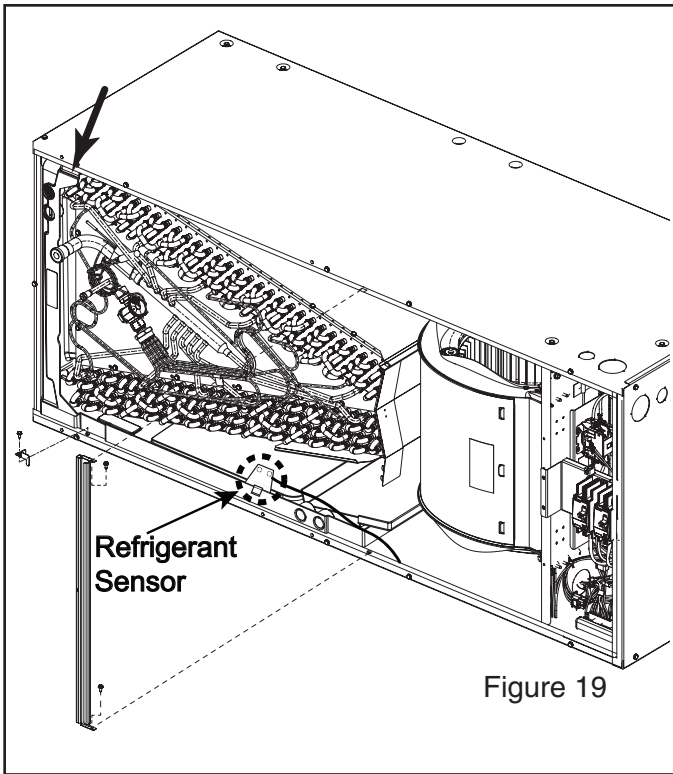

Figure 19
NOTE: The "N" coil replacement is taller than the "N" coil, see Figure 19. Some modification may be necessary to the unit or the return ductwork in downflow applications.
7. Reinstall the coil retaining brackets and horizontal brace(s). See Figure 19.
8. If equipped, reinstall refrigerant sensor in same location as before and reconnect. See Figure 19.